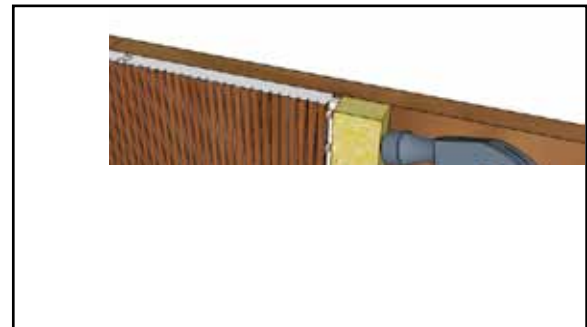

Figure 5
- Place next plank and gently tap into place so that the groove is fully around the tongue of the previous plank and the holes line up from one plank to the next. (Figure 5)